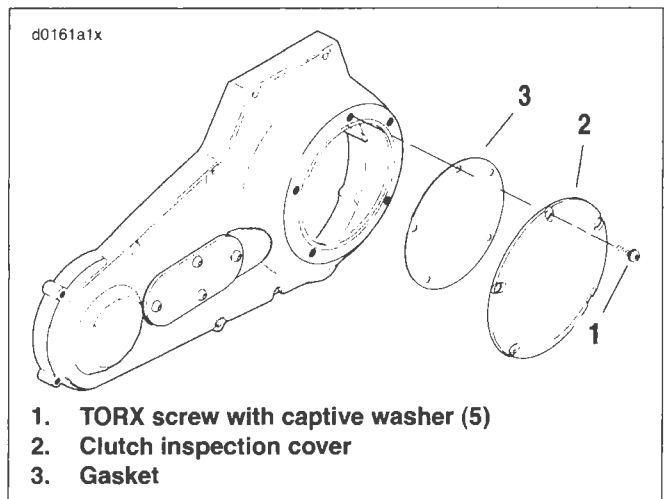

Figure 1-23. Clutch Cover
5. See Figure 1-23. Remove five TORX screws with captive washers (1) to detach clutch inspection cover (2) from primary chaincase cover.
- b. See Figure 1-23. Position seal (3) in groove in primary chaincase cover and press each of the nubs on seal into the groove. The nubs will retain seal in position.